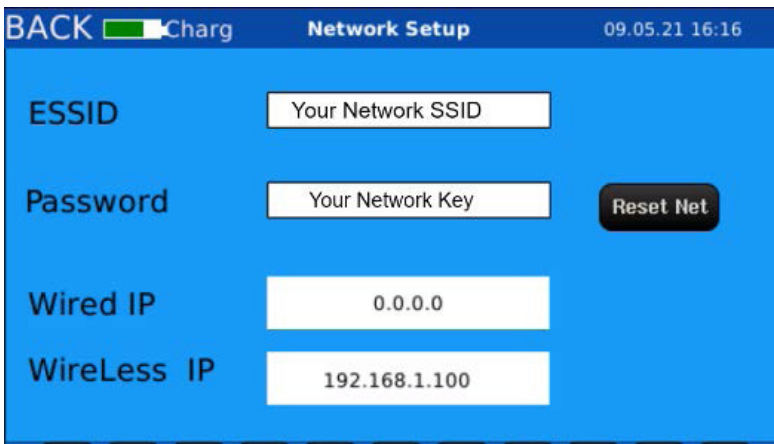

Figure 11. Enter wireless network credentials
- 2. Select the **ESSID** field and enter the identifying name of your wireless network (Figure 11).
- 3. Select the **Password** field and enter the wireless network password (Figure 11).